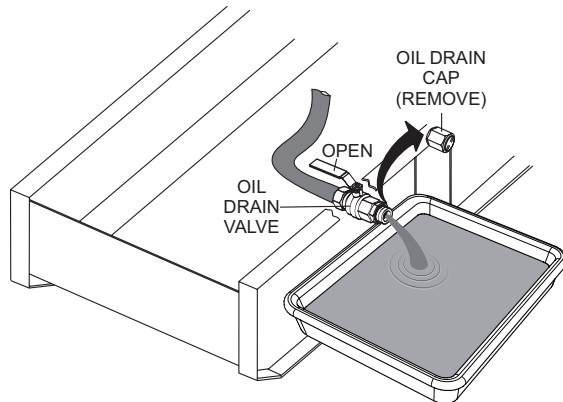

Figure 74. Draining The Engine Oil
4. Remove the **oil drain cap** (Figure 74).